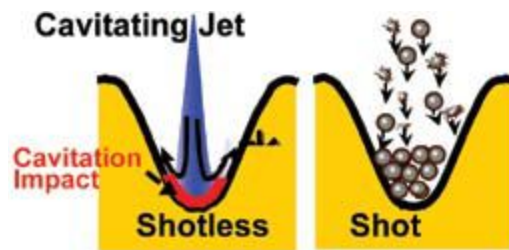

Figure 1. Shotless Peening and Shot Peening
**CAVITATION S PEENING®** is a peening method that uses cavitation impacts to improve fatigue strength and/or to introduce compressive residual stress. The peening method using cavitation impact is called “cavitation shotless peening (CSP)”, as shots are not required (see Fig. 1). In the case of cavitation shotless peening, cavitation is generated by cavitating jet.